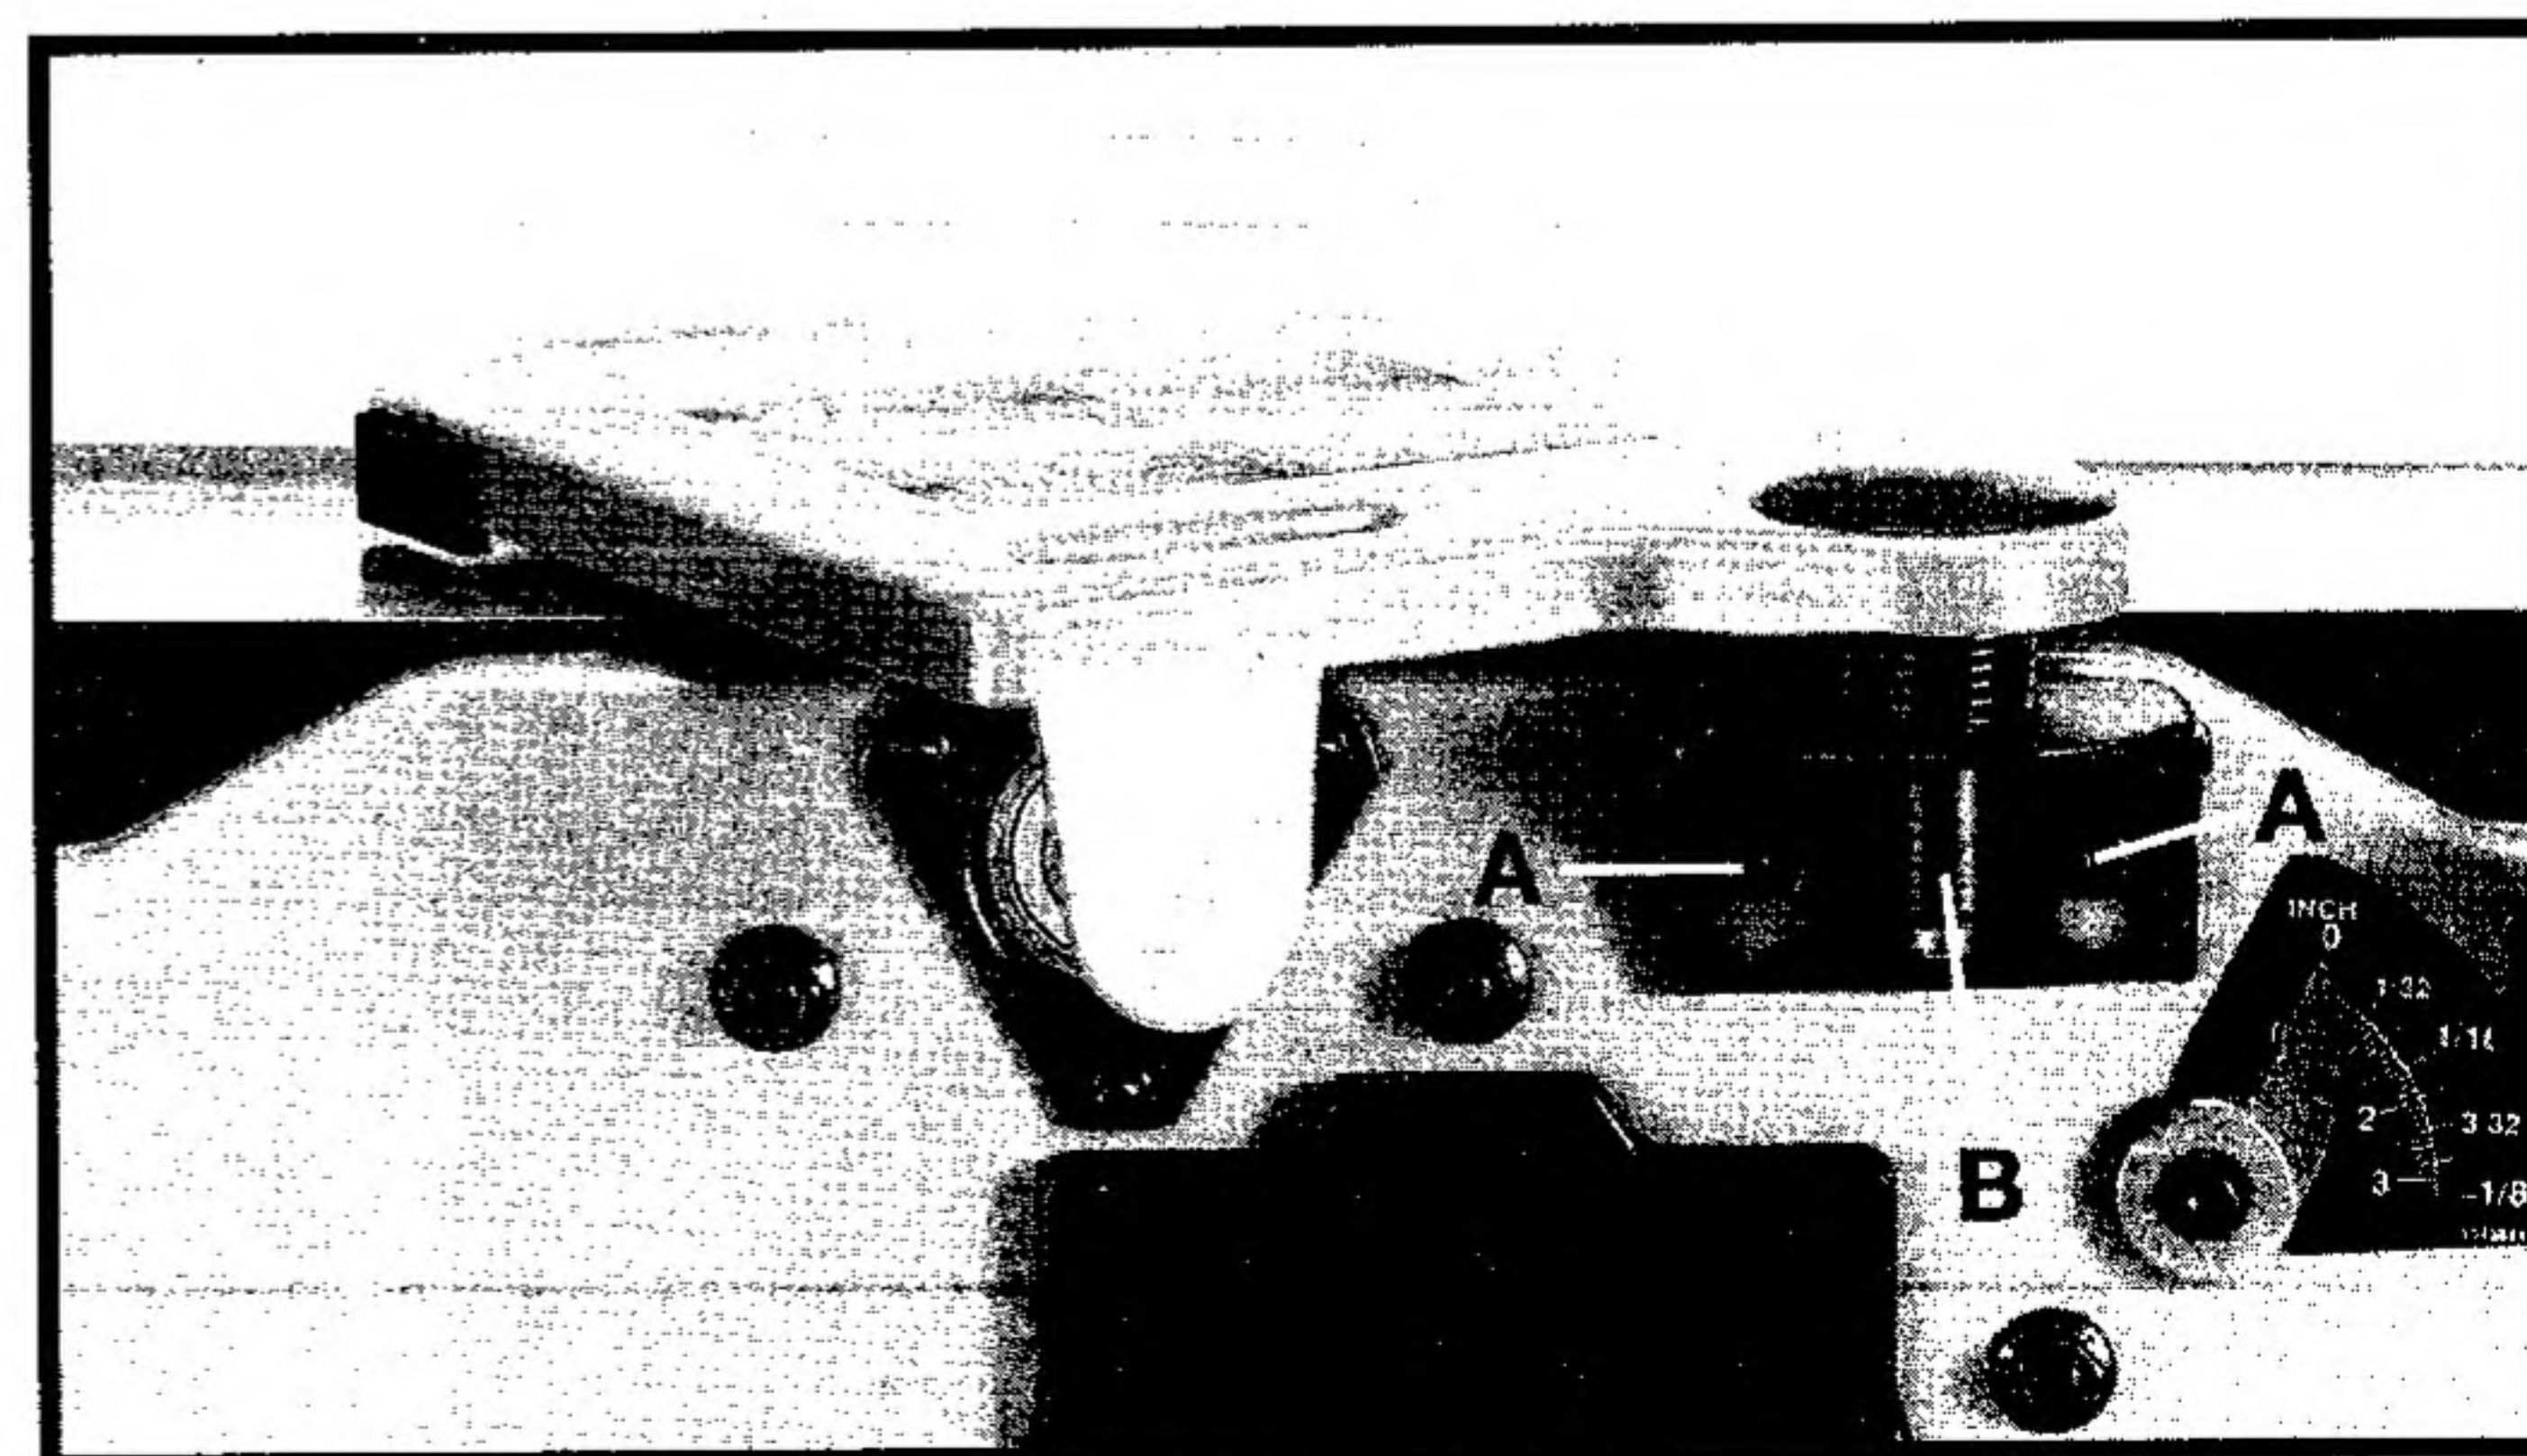

Fig. 14
2. Slide guard mounting bracket (B) Fig. 14 onto the two screws (A). Make sure cutterhead guard is touching the fence and tighten the two screws (A).